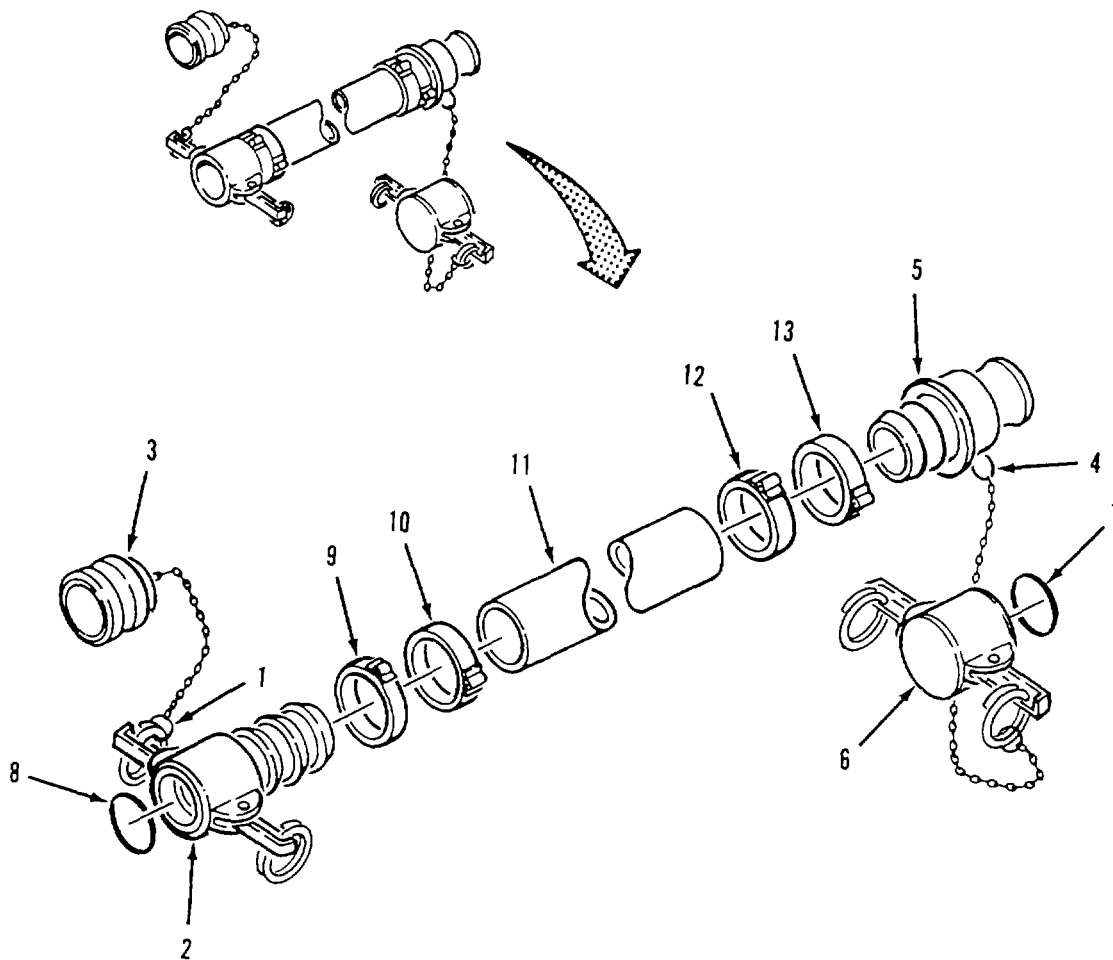

Figure 4-4. Discharge and Suction I-loose Assembly
- (14) Install gasket (8, figure 4-4) in female coupling (2).
- (15) Install gasket (7) in dust cap (6).
- (16) Connect split ring (4) to male coupling (5). Install dust cap (6) on coupling.
- (17) Connect split ring (1) to female coupling (2). Install dust plug (3) on coupling
- (18) Install hose in water system (para 3-4b).
- (19) Startup water system (para 2-12c) and test repaired hose for leaks.